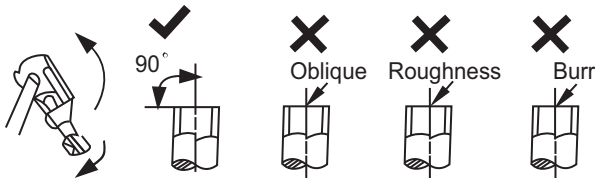

Fig. 45 — Pipe Cutting
- a. Cut the pipe, with a pipe cutter, at 90 degrees (see Fig. 45).